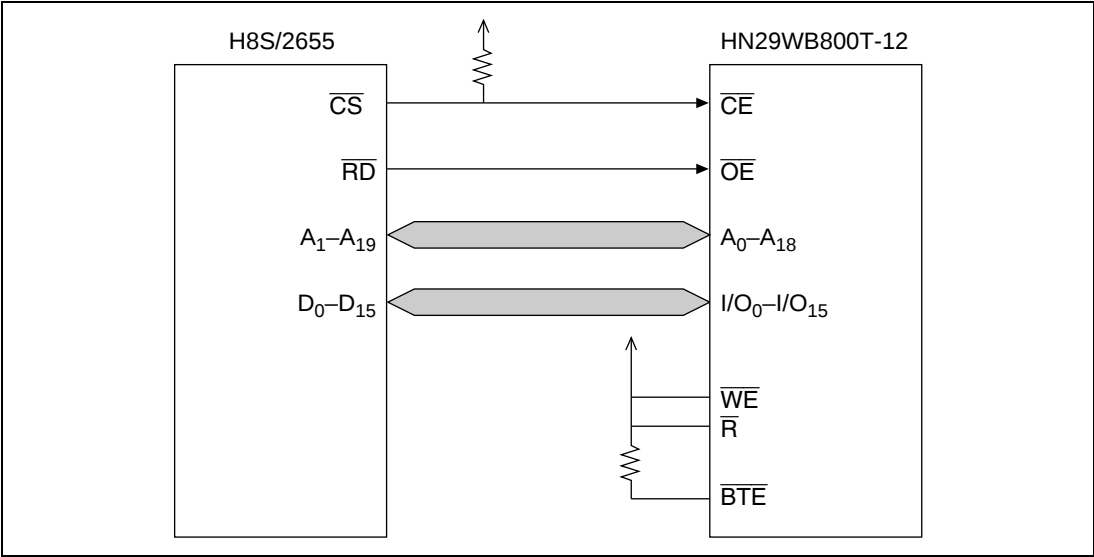

Figure 3.6.1 (a) Block Diagram of Connection between H8S/2655 and HN29WB800T-12
1. Figure 3.6.1 (a) shows a block diagram of the connection between an H8S/2655 and an HN29WB800T-12 using mode 4 (16-Mbyte access, 16-bit data bus).
2. Figure 3.6.1 (b) shows the flash memory area designation.